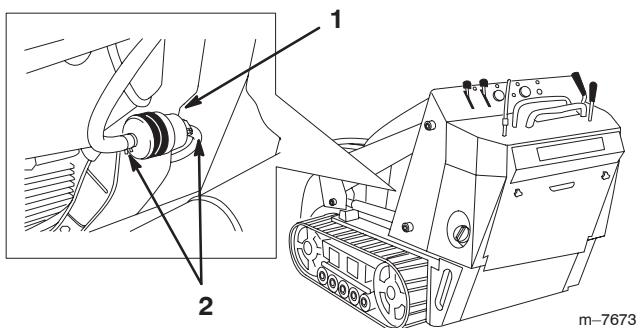

Figure 45
4. Clamp the fuel lines on both sides of the fuel filter (Fig. 45).
5. Squeeze the ends of the hose clamps together and slide them away from the filter (Fig. 45).